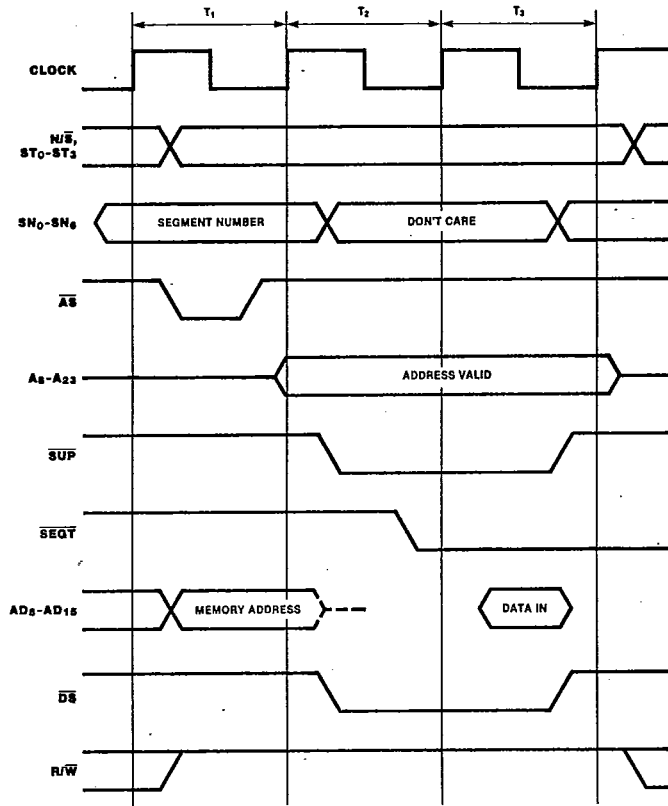

Figure 9. Memory Read Timing
**Memory Read and Write.** Memory read and instruction fetch cycles are identical, except for the status information on the ST0-ST3 inputs. During a memory read cycle (Figure 9) the 7-bit segment number is input on SN0-SN6 one clock period earlier than the address offset; a High on DMASYNC during T3 indicates that the segment offset data is valid. The most significant eight bits of the address offset are placed on the AD0-AD15 inputs early in the